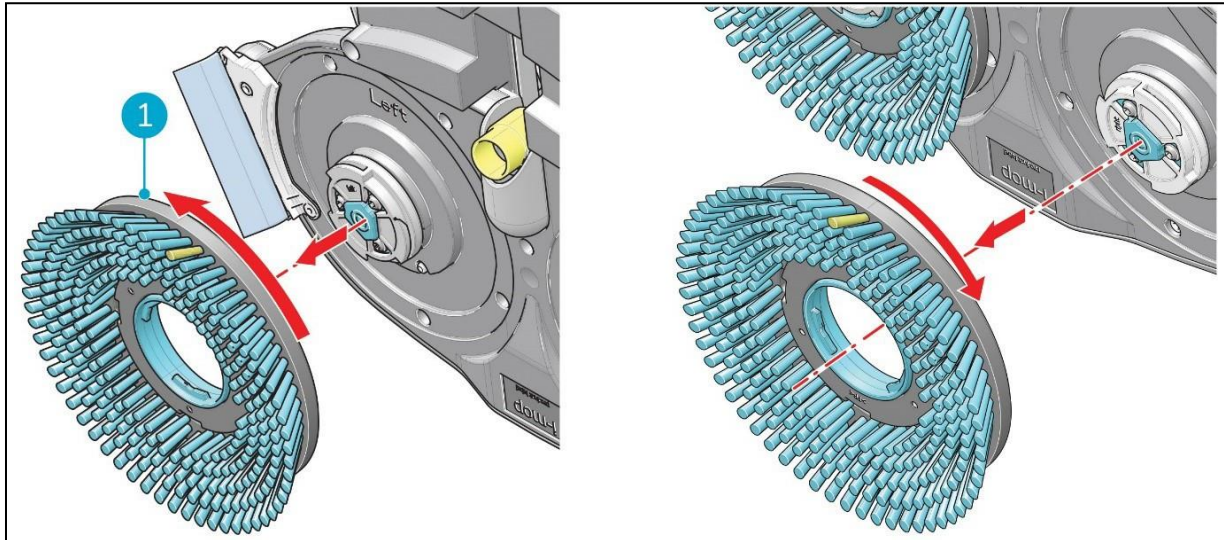

Figure 26
3. Using your other hand to turn the left brush anticlockwise (Figure 26, pos 1) until you feel resistance or see the motor disk turning as well.